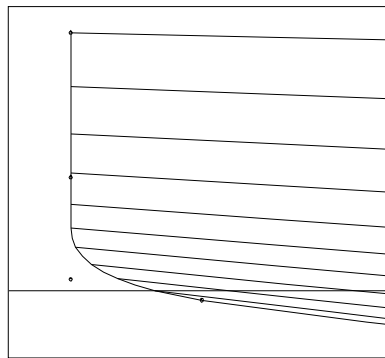

Fig. 4
**7 Drag 'P54' forward along the profile to about  $X = 28.6$ ,  $Z = -.1$  (Fig. 4).**